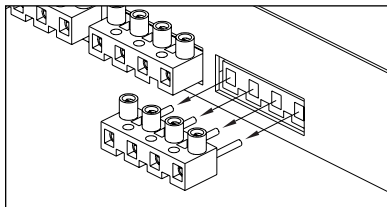
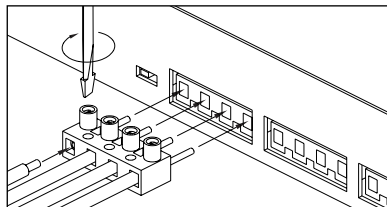

Figure 3
Figure 4
3. Make the connections to the SVL-6. The amplifier/speaker connectors on the SVL-6 are removable. If you wish, you may remove the SVL-6's connectors to facilitate installation [see (Figure 3)]. Strip 3/8" of insulation from the end of each wire. Tightly twist the end of each wire until there are no frayed ends. Insert each wire into the appropriate hole on the connector terminals. Be certain that proper phasing is observed—connect the positive terminals on the SVL-6 to the positive terminals on the amplifier and speakers and the negative terminals on the SVL-6 to the negative terminals on the amplifier and speakers. Re-install the connectors if they were removed. See (Figure 4).